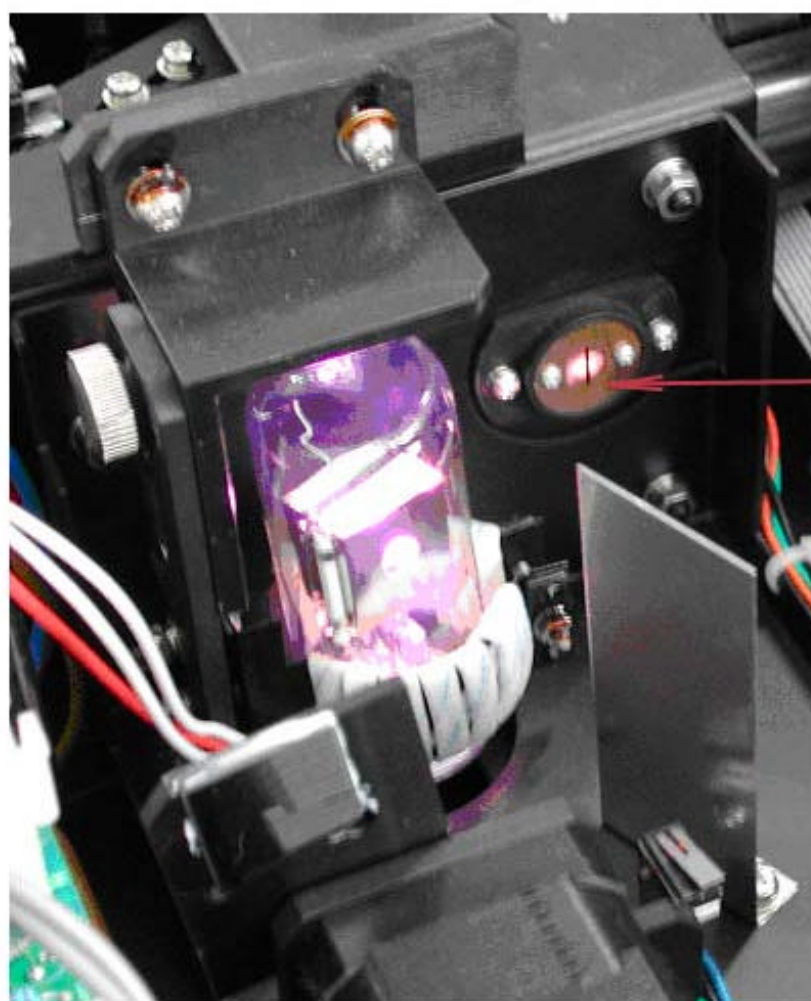

Fig A7
9. Re-fit the grey metal protection cover, Fig. A4. Temporarily re-fit the main cover and fix with two screws, one each side. Switch on and remove the grommet from the middle of the rear panel. You can now look through the hole and view the image of the lamp on the slit. Check the lamp alignment Fig. A7. If the image is not covering the slit, the lamp alignment needs adjustment. This requires running the UV-2802 without the covers, with high voltages accessible, and so should only be performed by a suitably qualified engineer. If adjustment is required, remove the cover and grey protection cover, put on UV protection glasses and turn on the instrument. Adjust to make the image central on the slit, Fig. A7. Install the grey metal protection cover and cover of instrument.